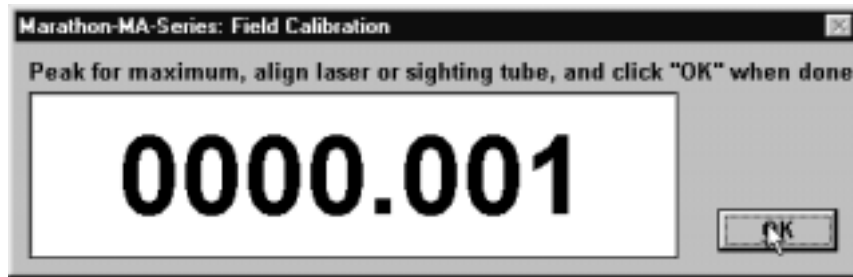

Figure D-8: Alignment Window
2. The Alignment screen displays (Figure D-8). Follow the onscreen directions.